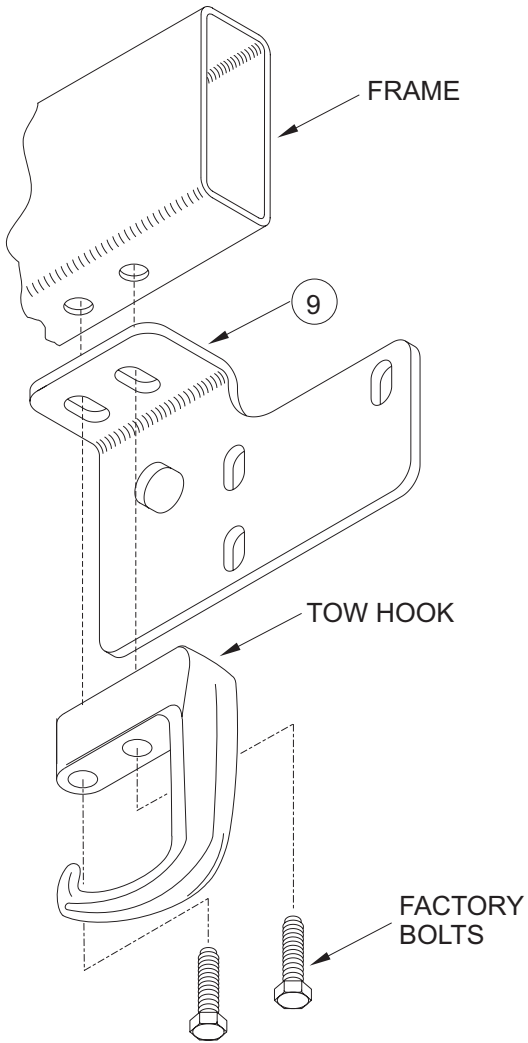

FIGURE 2
- STEP 4.** From underside of vehicle, remove tie down loop and "J" hook bolts. Discard tie down loops and move "J" hook and factory bolts from passenger side to driver side and visa versa. Install bottom brackets using existing bolts. Hand tighten. **SEE FIGURE 2.**